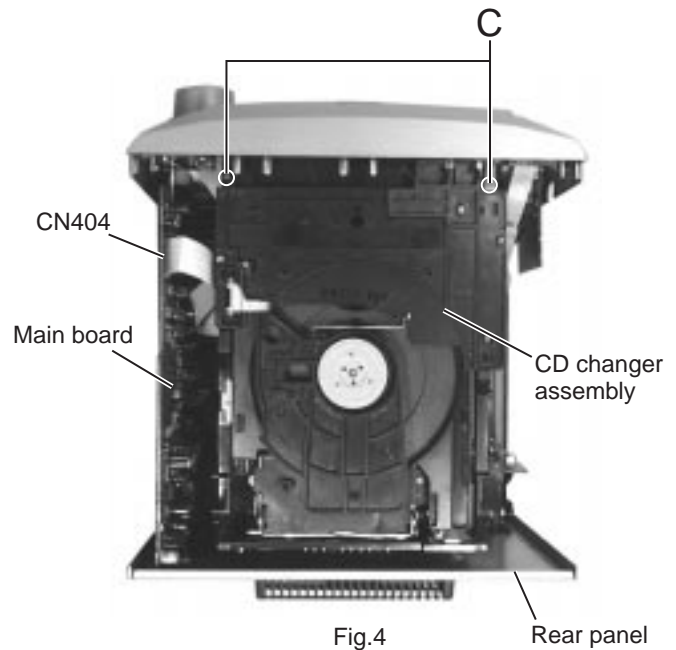

Fig.4
■ Removing the CD Changer Mechanism Assembly (See Fig.4 to 6)